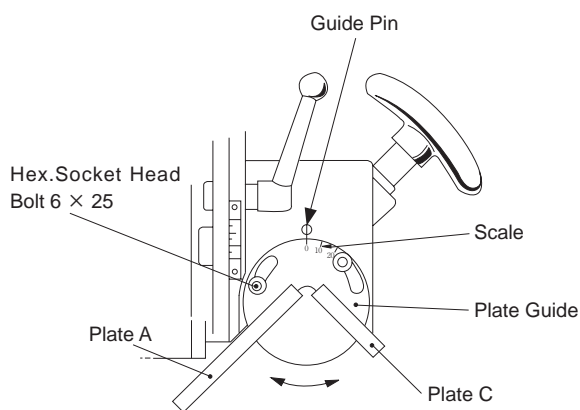

Fig. 2
- (1) Loosen Hex. Socket Head Bolt 6 x 25 on Plate Guide located on both sides of the body. (Fig.2)